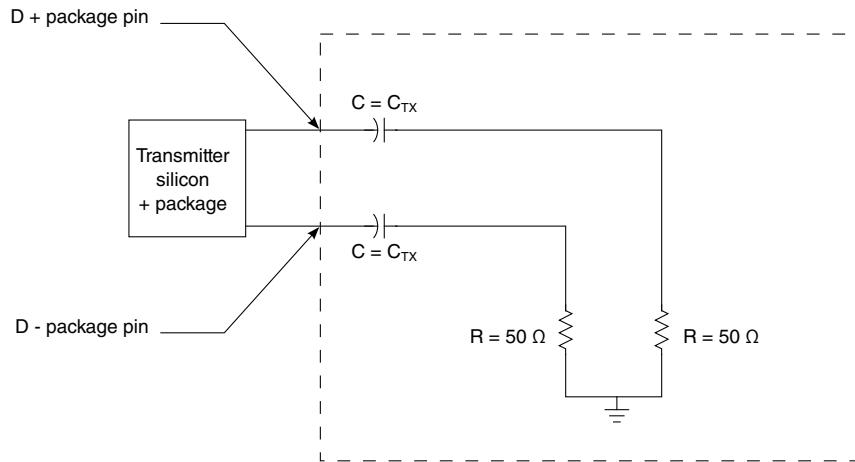

Figure 76. Test/measurement load
1. Specified at the measurement point into a timing and voltage test load as shown in Figure 76 and measured over any 250 consecutive transmitter UIs.